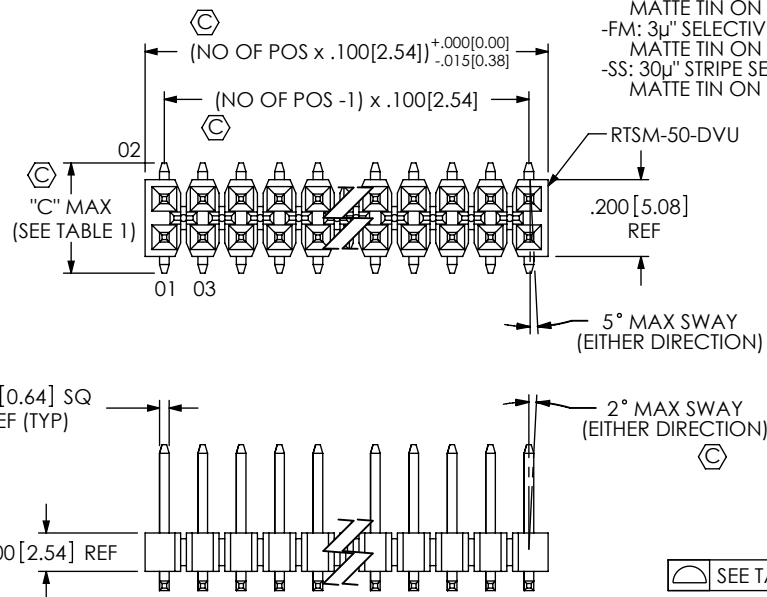
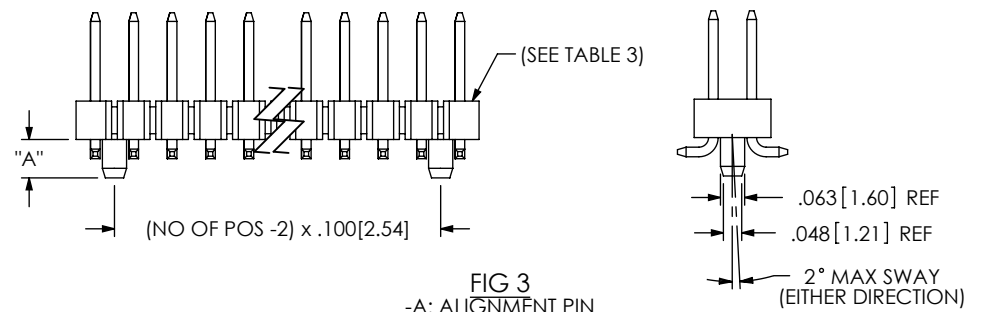

FIG 1
FIG 3
- A: ALIGNMENT PIN (SEE FIG 3, SHT 2) (FOR MOLDED TO POSITION, USE RTSM-XX-DVU-XX BODY) (FOR STAKED, USE RTSM-50-DVU BODY, 5 POS MIN) (LEAVE BLANK FOR NO HOLD DOWN OPTION) USE RTSM-50-DVU SEE FIG 1, CAN BE CUT TO POSITION)
(DIFFERENT AS SHOWN, OTHERWISE SAME AS FIG 1)